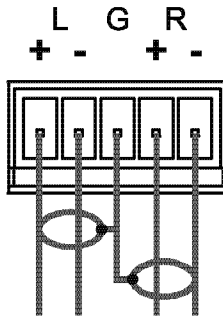

Figure 3: Connecting the Balanced Stereo Audio Output
- A balanced output connection, see Figure 3